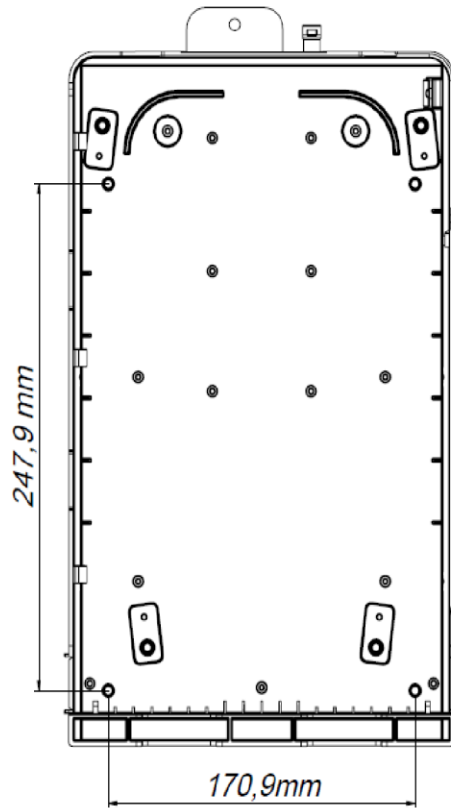

Fig. 6
3.2.5. Secure the base to the wall. The distance between mounting holes is shown on Figure 6.